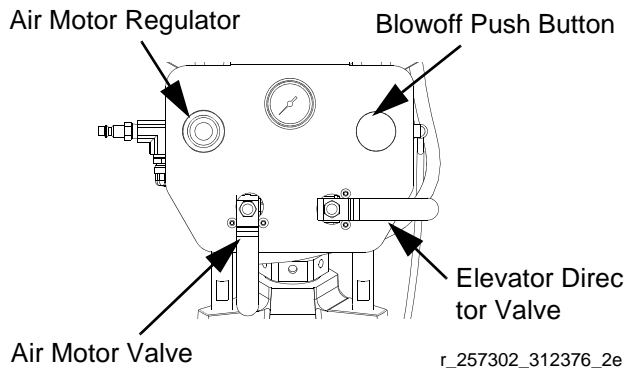

FIG. 10: L20c Air Controls
- 11. Use the air motor regulator (see FIG. 10) to control the pump speed and the fluid pressure. Always use the lowest air pressure necessary to get the desired results. Higher pressures cause premature tip/nozzle and pump wear.